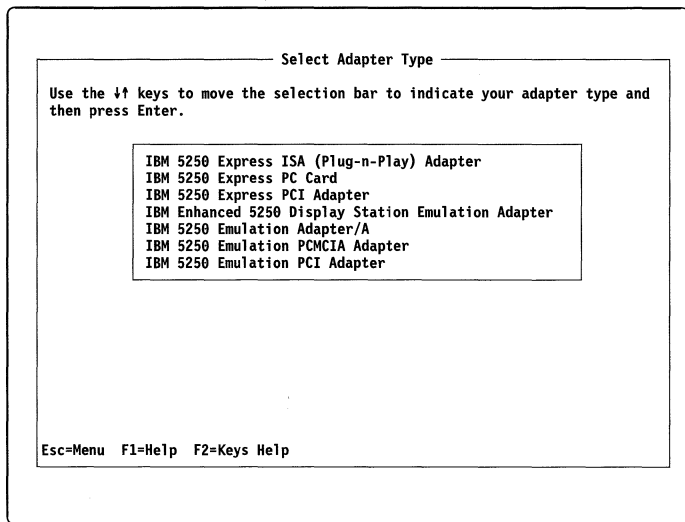

Figure 14. Select Adapter Type Screen
1. From the 5250 Adapter Configuration Menu, select the Select Adapter Type option. The Select Adapter Type screen, similar to the one shown in Figure 14 on page 29, appears.